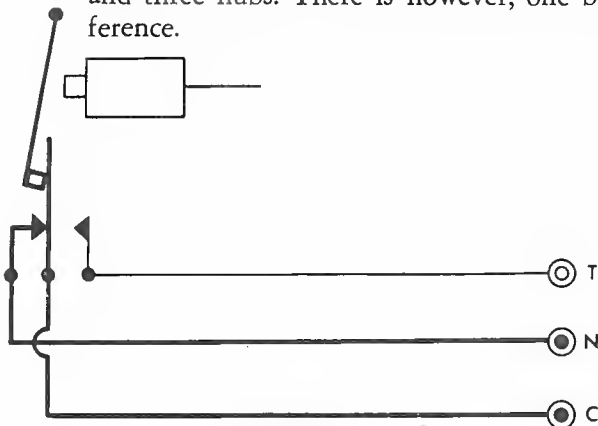

Figure 2.
Figure 2 is a schematic of the basic selector showing the three hubs: Common (C); Normal (N); and Controlled (T). The letter T used in indicating the Controlled hub is the accepted abbreviation for the word "Transferred," which is a synonym for Controlled in IBM language.
1. If the magnet is de-energized, the selector is said to be NORMAL. In this condition, there is an internal connection between the "C" and the "N" hubs. (See Figure 2.)